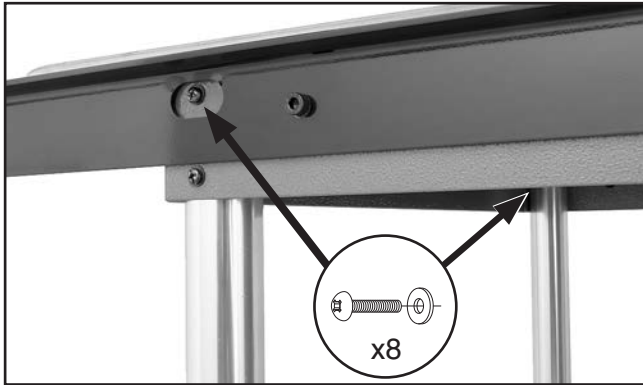

Figure 33. Support leg fastened to main extension table.
- Fasten the support legs to the main extension table with (8) M6-1 x 12 Phillips head screws and 6mm flat washers (see **Figure 33**).